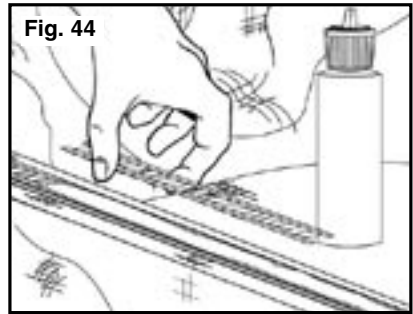

Fig. 44
- A. Working from the Tunnel Portals where the track is already in place, glue the remaining track to the Track-Bed by spreading an even layer of Foam Tack Glue on top of the Track-Bed and attaching the track one section at a time (Fig. 44). Be sure not to use too much glue or get any on the rails.